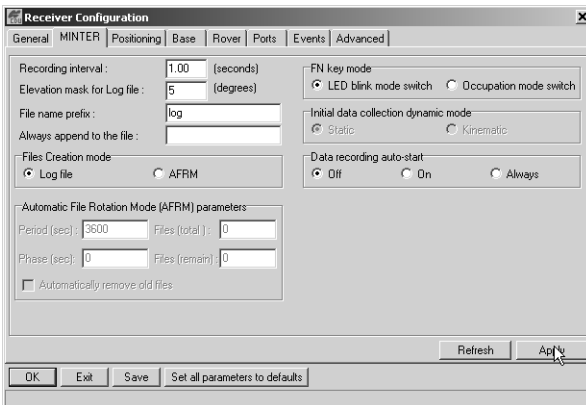

Figure 2-16. Receiver Configuration – MINTER Tab
3. Click the **MINTER** tab, configure the following settings, and click **Apply** (Figure 2-16).